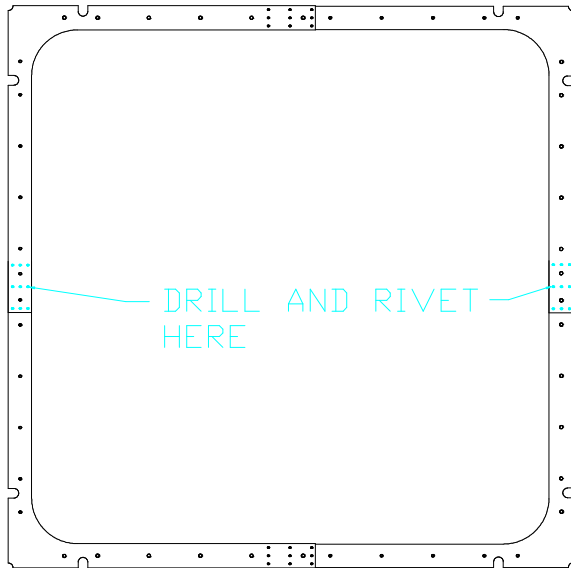

Figure 9.8.5
10) Join the top and bottom halves of the Station 9 bulkhead using the typical nine rivet joint. **NOTE:** Debur, chromate and rivet at this time. Figure 9.8.5.